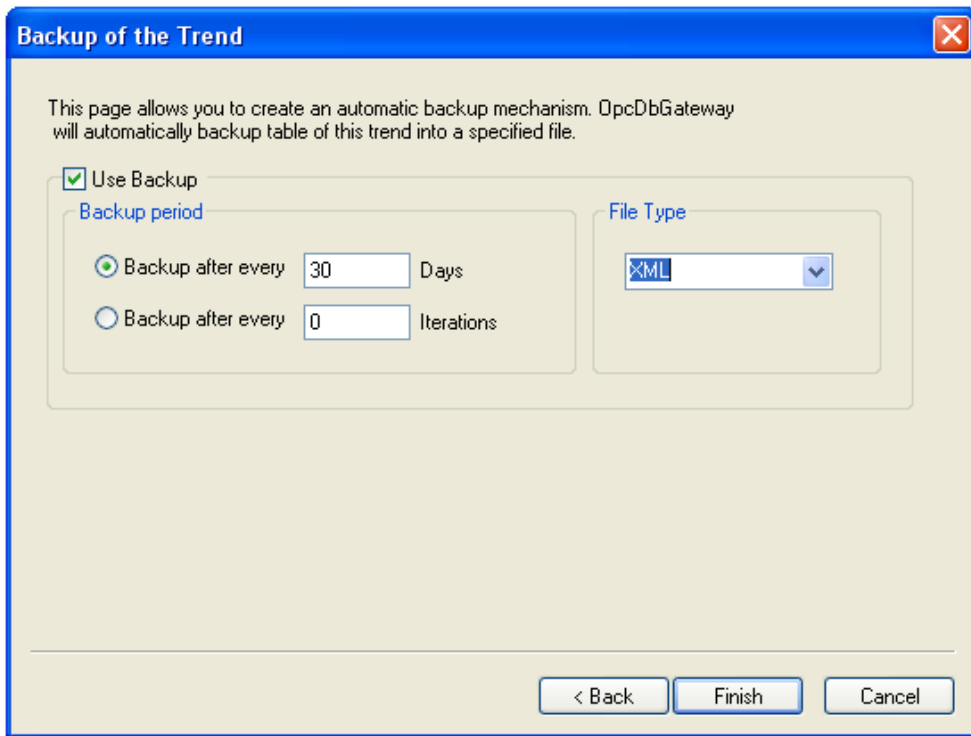

Figure 8: The fourth wizard page: Backup of the Trend.
7. If you prefer also to archive the real-time process values to a file (CSV, HTML, XML, etc.) then please select the **Use Backup** check-box (Please see Figure 8).
8. Click on **Finish** button (Please see Figure 8).